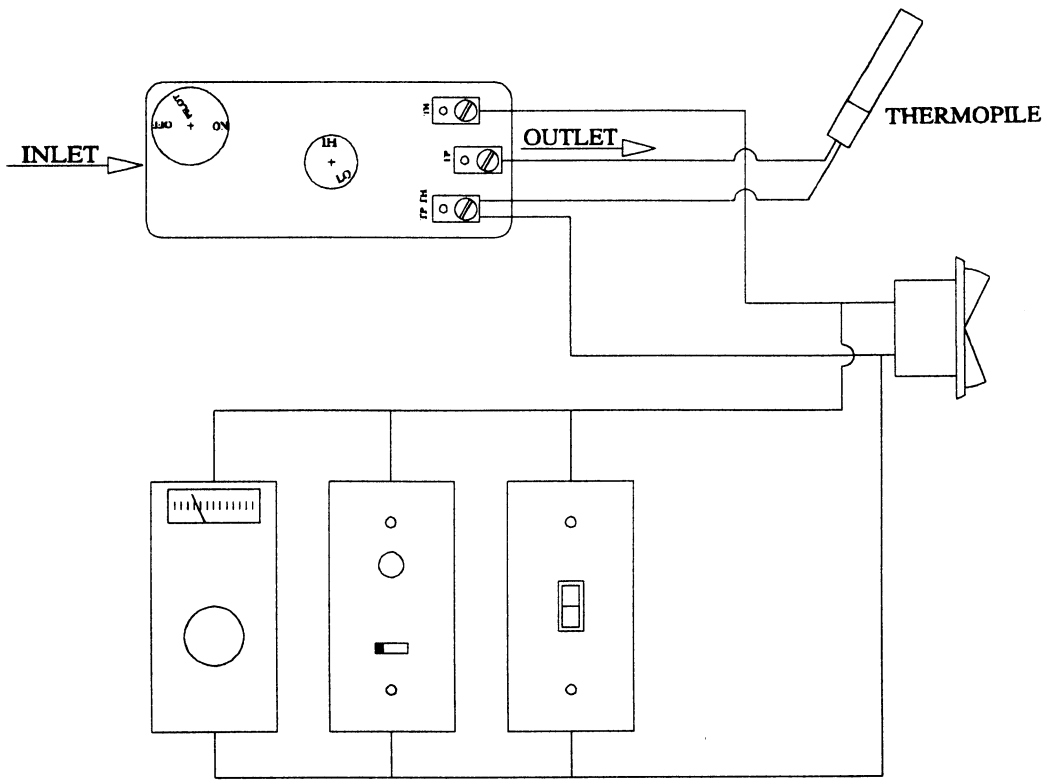
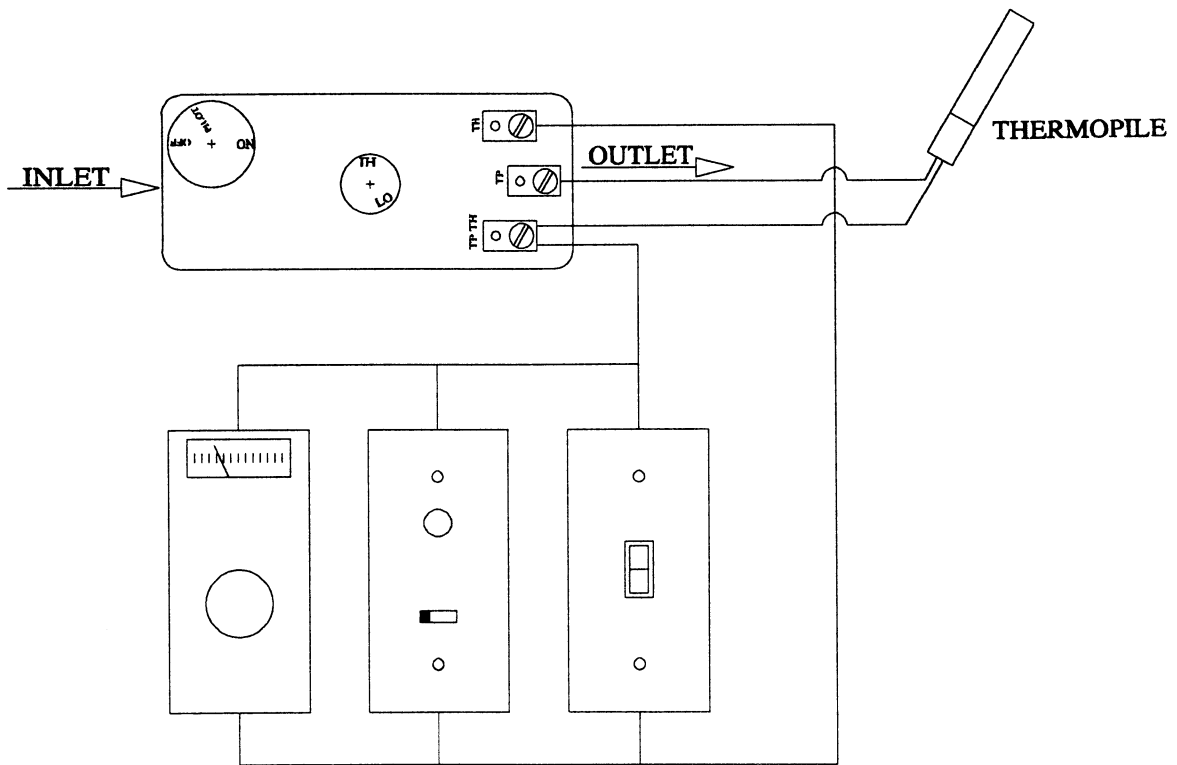

Figure 9a
Figure 9b
1. Mount the thermostat or wall switch in the desired location and run **"two conductor thermostat wire"** to the burner control switch (Figure 9a). To bypass the burner control switch, run the wires directly to the gas valve (Figure 9b).